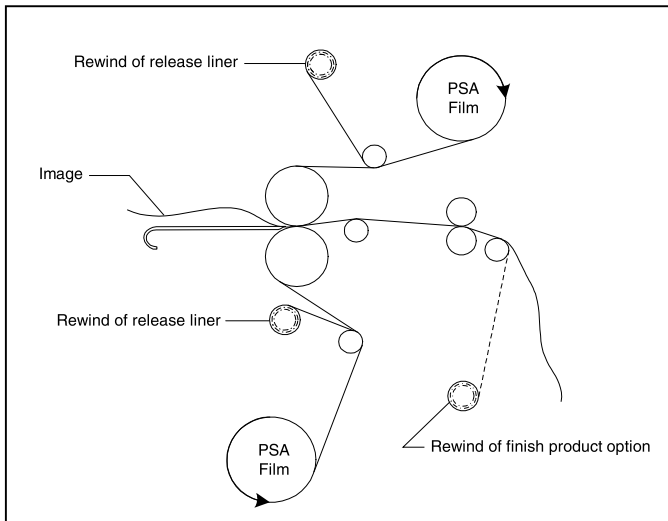

Fig. 42
TIPS FOR PSA ENCAPSULATION (Figure 42)
1. Load the laminator as illustrated in Figure 42.